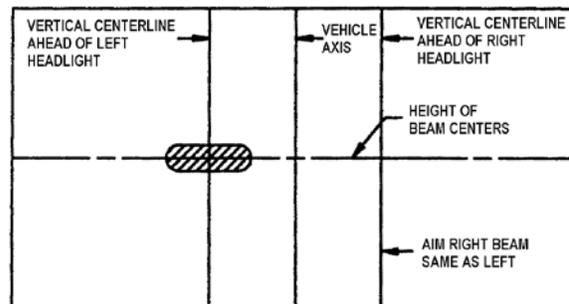

FIGURE 48: UPPER BEAM HIGH-INTENSITY ZONE PROPER LOCATION ON SCREEN 06503
- High beam headlights are aimed so that the center of the high-intensity zone is located at the horizontal and straight ahead vertically (Figure 48).